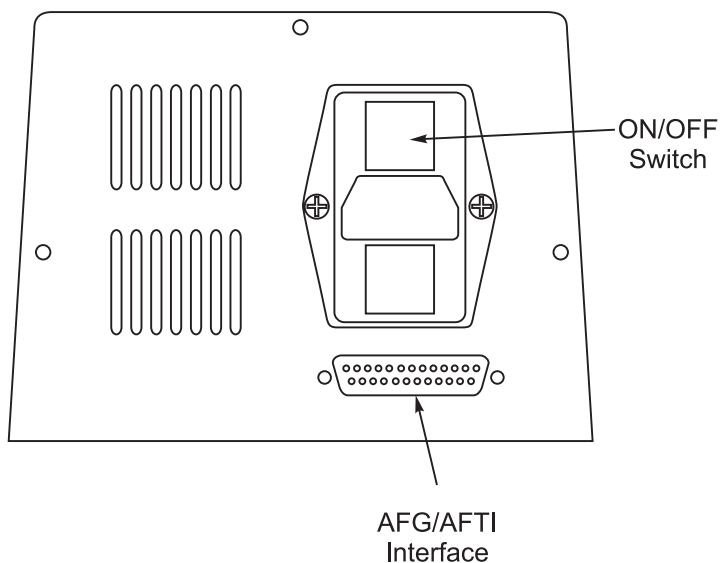

Figure 2
3. Turn on the power switch shown in Figure 2. If the power bar does not illuminate, turn the red emergency stop button in a clockwise direction.
There is an external control port at the rear of the SnapShot. See Figure 2.